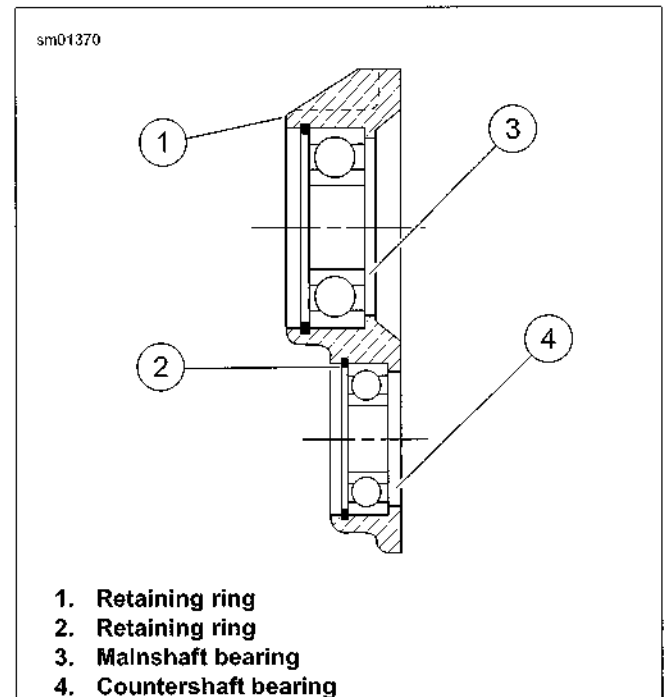

Figure 5-62. Ball Bearing Assembly
4. See Figure 5-62. If bearing replacement is required, remove retaining rings (1, 2) using SNAP-ON SNAP RING PLIERS (Part No. PR-36).